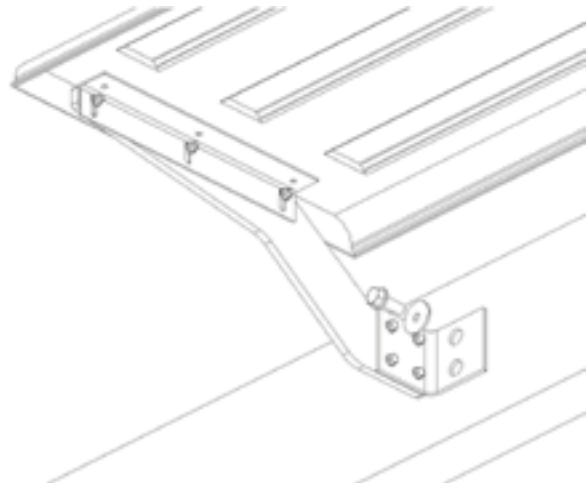

Figure 8
- A. Place the center bracket as close to the end of the fender as possible. Using the center bracket as a guide, drill three 5/16" holes in fender. Use the 5/16" x 1-1/4" supplied bolts to attach fender to bracket. Figure 8 shows a typical center bracket installation. Try and use existing holes to mount center bracket to truck frame.